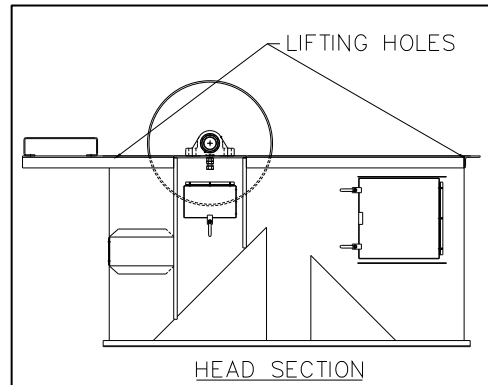

Figure 2-5, Lifting Hole Locations
F. The last elevator section to be lifted into position onto the elevator is **ALWAYS** the head section. (The hood is not assembled until belt and cup installation is complete). Lift the head onto the top elevator section. See **Figure 2-5**. **DO NOT** install the hood at this time. Plumb the head section and fasten it to the elevator trunk.